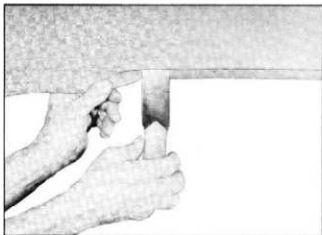

Fig. 30—Installing Headlining under Retainer
6. Install headlining under retainers at side roof rails, using a headlining inserting tool (fig. 30). Make sure retainers are tight before beginning installation.